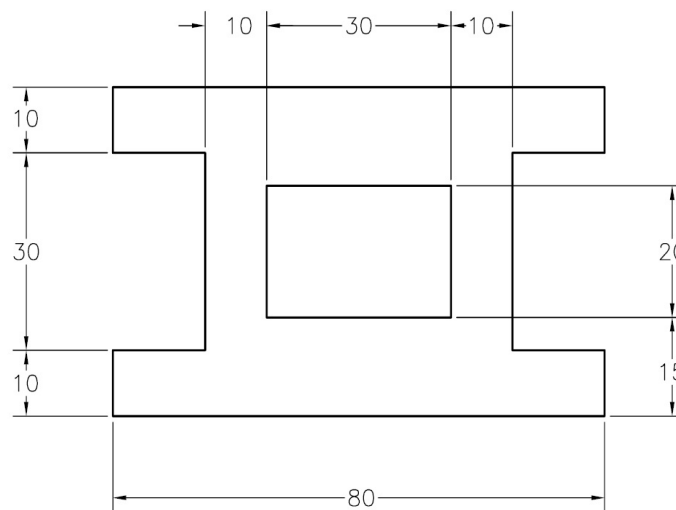
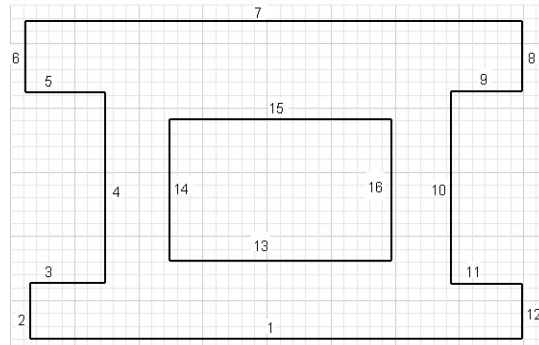

Figure 3-48 Dimensioned sketch for Tutorial 1
Figure 3-49 Initial sketch drawn using the sketching tools
In this tutorial, you will draw the sketch shown in Figure 3-48. This sketch is the same as the one drawn in Tutorial 2 of Chapter 2. After drawing the sketch, you will add the required constraints and then dimension it. **(Expected time: 30 min)**
- Draw the initial sketch by using the **Line** and **Two point rectangle** tools, refer to Figure 3-49.
Drawing the Initial Sketch 1. Using the **Line** and **Two point rectangle** tools, draw the required sketch similar to the one shown in Figure 3-48. You do not need to draw the sketch to the exact length. Use the temporary tracking option for drawing the sketch. For your reference, all lines in the sketch are numbered, see Figure 3-49.
It is evident from Figure 3-49 that some of the lines need to be of the same length. For example, lines 1 and 7, lines 2 and 6, lines 8 and 12, and so on. To make the lines of the same length, you can use two options. In the first option, you can assign dimensions to all these lines. However, this will increase the number of dimensions in the sketch. In the second option, you can apply constraints that will force the lines to maintain an equal length. You can apply the **Equal** constraint to all the lines having the same length. This constraint will relate the length of one of the lines with respect to the other. Now, if you dimension any one of the related lines, all other lines related to it will be forced to acquire the same dimension value. The **Equal** constraint is applied in pairs.
1. Choose the **Dimension** tool from the **Constrain** panel of the **Sketch** tab. Alternatively, right-click anywhere in the graphics window and then choose **General Dimension** from the Marking menu displayed. Next, select line 1, refer to Figure 3-49.